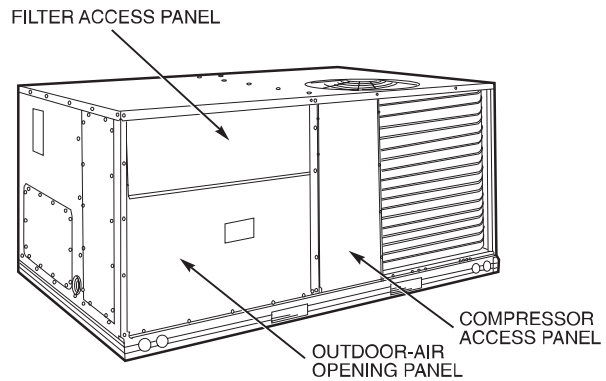

Fig. 10 — Typical Access Panel Locations
2. Remove filter access panel by raising panel and swinging panel outward. Panel is now disengaged from track and can be removed. No tools are required to remove filter access panel. Remove outdoor-air opening panel. Save panels and screws. See Fig. 10. Remove optional outdoor-air hood package from filter section.